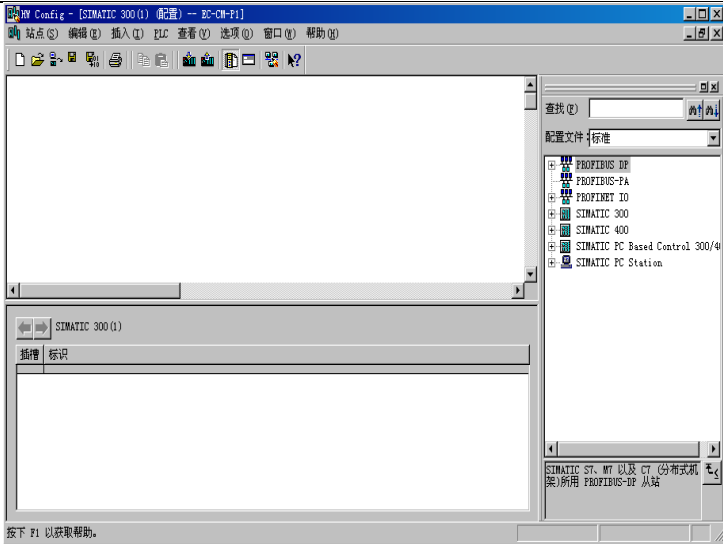

Figure 7-5
2. Double-click the newly created object icon in any area on the left or right.  **SIMATIC 300 (1)** When the object appears  **硬件**, double-click **[Hardware]** to enter the object configuration page, as shown in Figure 7-5.